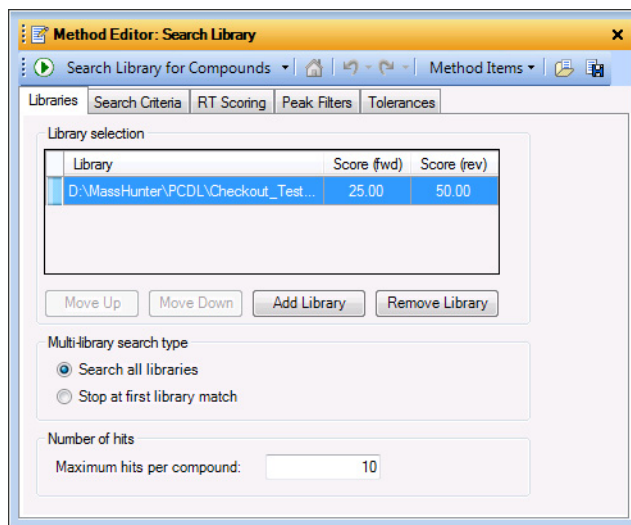

Figure 19 Libraries tab
- In the **Libraries** tab, click **Add Library** to add **Checkout_TestMix_Std.cdb**. See Figure 19.
- In the **Libraries** tab, click the current **Score (fwd)** and **Score (rev)** values. Set the forward score to **25** and reverse score to **50**. See Figure 19.